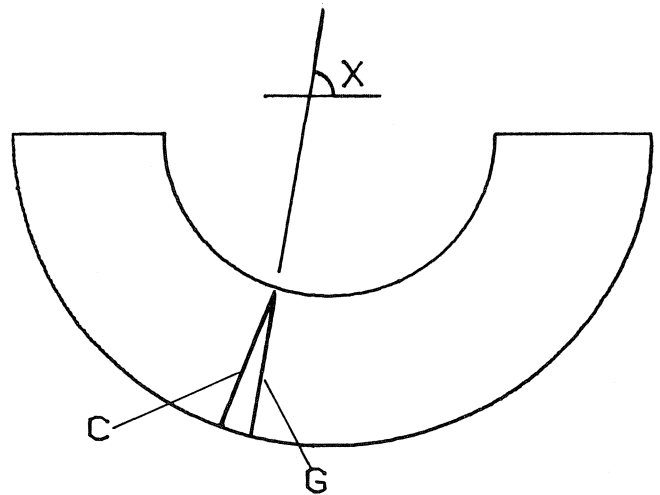

Figure 14. Measure the Angle X Between the Split Line and the Line G.
6. Measure the angles on the split line and the milled surface (Figures 14 and 15). The total angles should not be more than  $15^\circ$  from the angles in the adjacent pieces and less than  $7^\circ$  is preferred.